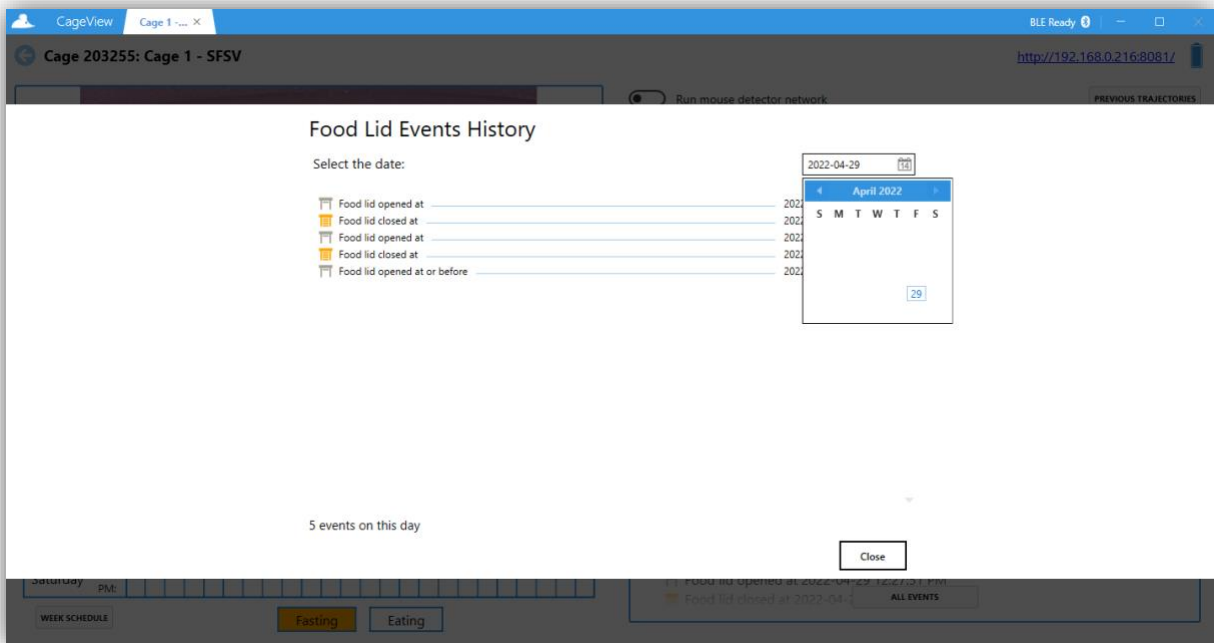

Figure 24. Food lid events history - choosing the date
5.2.11. Choose the log dates, as shown in **Figure 24**. The calendar only shows the dates that the App has records for them. Some days might be crossed with an "X" in the calendar, meaning that there are no records for those days in between.